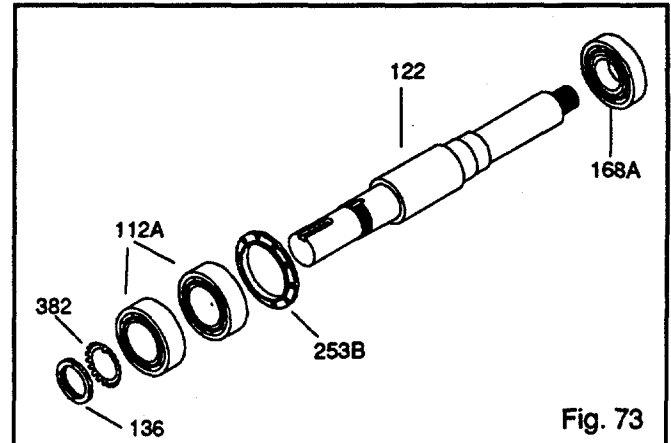

Fig. 73
4. Place lockwasher (382) on shaft (122). Place tang of lockwasher in keyway of shaft (Fig. 73).
5. Thread locknut (136) onto shaft (122). Tighten locknut until snug. Bend any tang of lockwasher (382) into a slot of locknut.